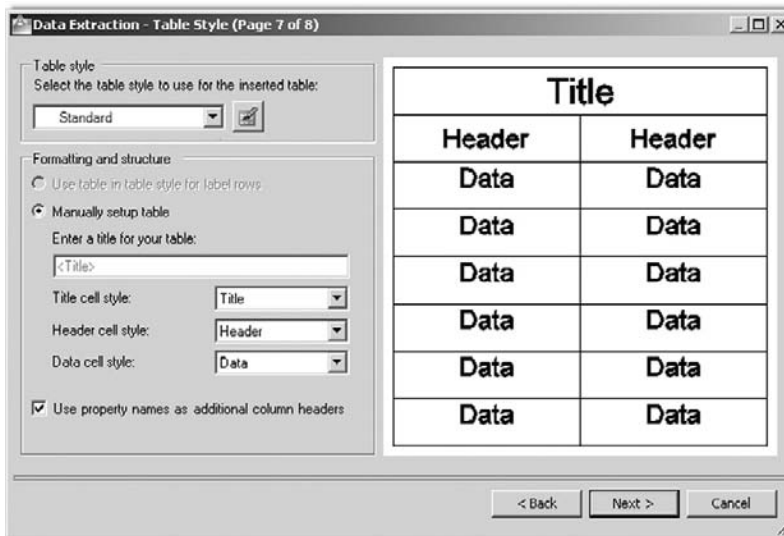

FIGURE 18.17
- Step (Page) 7.** Table Style (Figure 18.17). We do not do anything to the table, leaving it as is, but you should review the options available and press Next > when done.